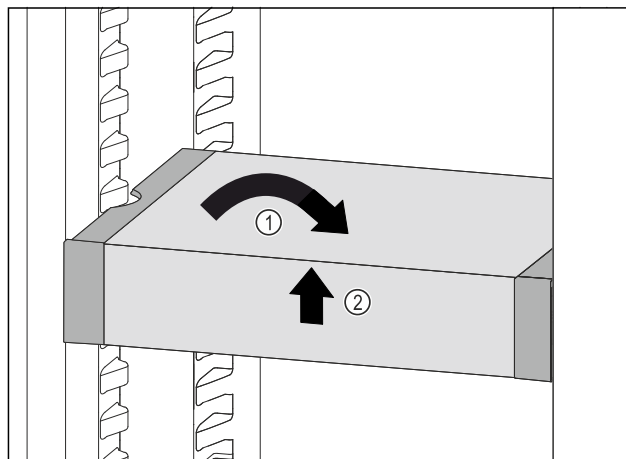

Fig. 91
- ▶ Set VarioSafe straight. *Fig. 91 (1)*
- ▶ Lift VarioSafe at the front. *Fig. 91 (2)*